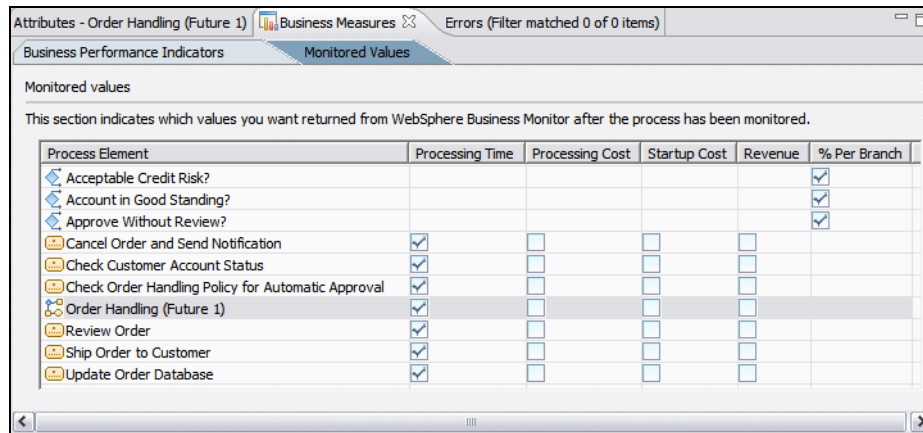

Figure 9-8 Monitored values
- ▶ Select activities as shown in Figure 9-8.